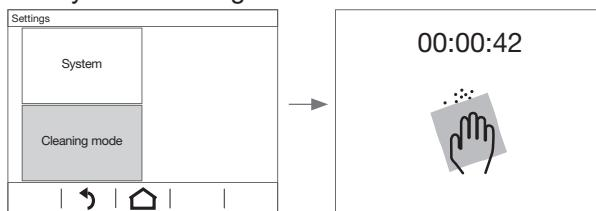

Figure 8: Cleaning mode
- Select submenu **Cleaning mode** (Figure 8).
The cleaning icon displays the locking of the touch-sensitive display. Touches are not evaluated – in the delivered state 5 minutes – for the configured period. The remaining cleaning time is displayed on the screen as a countdown (Figure 8).